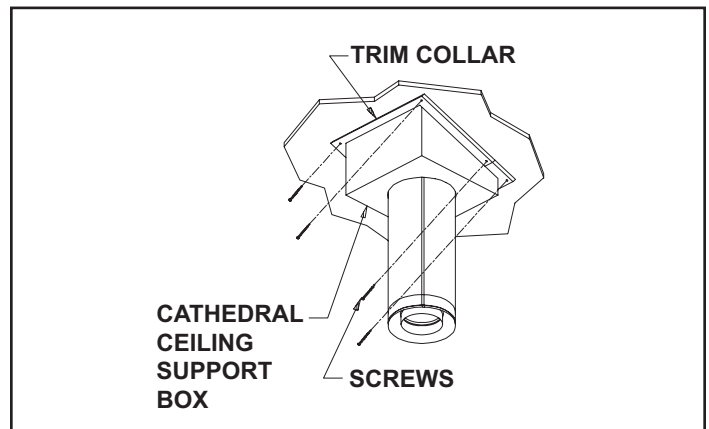

Figure 5.19
Step 8 - Install the black trim collar around the outside of the cathedral ceiling support box (Figure 5.19). The two pieces of the trim collar slide over one another to allow for easy adjustment around the support box. Using the six screws provided, secure the four corners and the overlapping sections of the trim collar to the ceiling. You may want to predrill the holes for the overlapped sections for ease of installation.